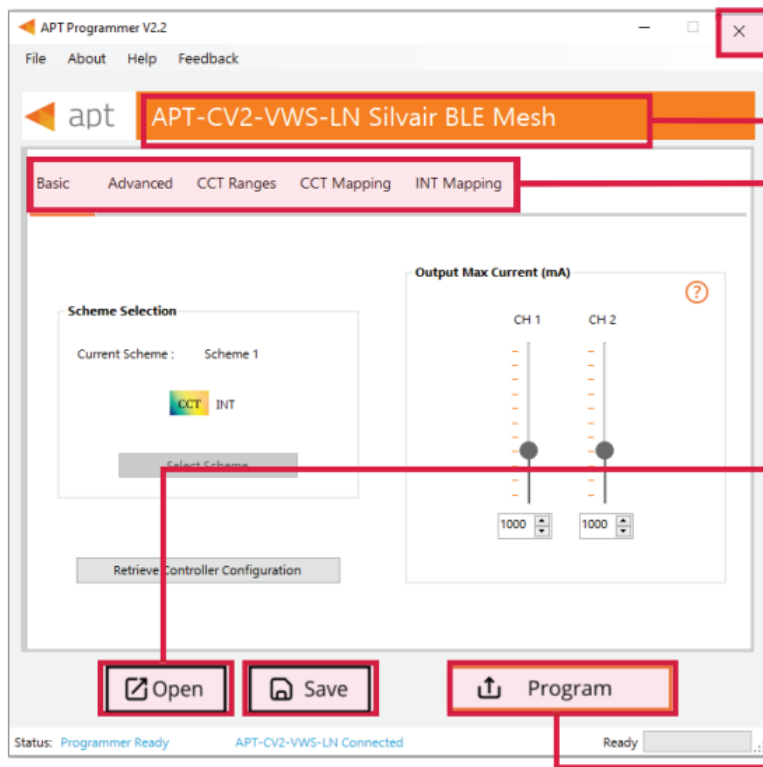

Figure 3: Programmer Interface window
3. Click **Connect Controller** to establish a connection. Once connected, the APT Programmer Interface window (shown in Figure 3) will open.